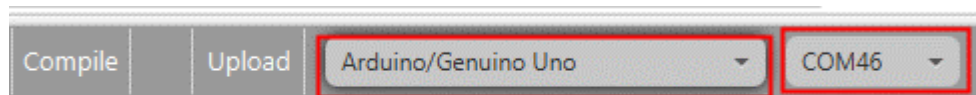

Figure 2-8
- 2) Click the drop-down box to the right of "Upload" to select the model of the main control board. If your main control board is a UNO board, choose Arduino / Genuino Uno; if your main control board is a Nano board, choose Arduino Nano [atmega328]; Then click the second drop-down box on the right to select the USB port, as shown in Figure 2-8. After the selection is completed, the Mixly and UNO boards are successfully connected.